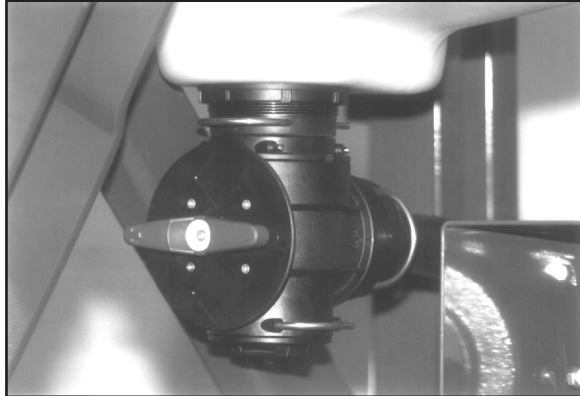

Fig. 26
1. Ensure that the handle on the valve under the tank is turned to a horizontal position with the arrow on the handle facing up.(Fig. 26)